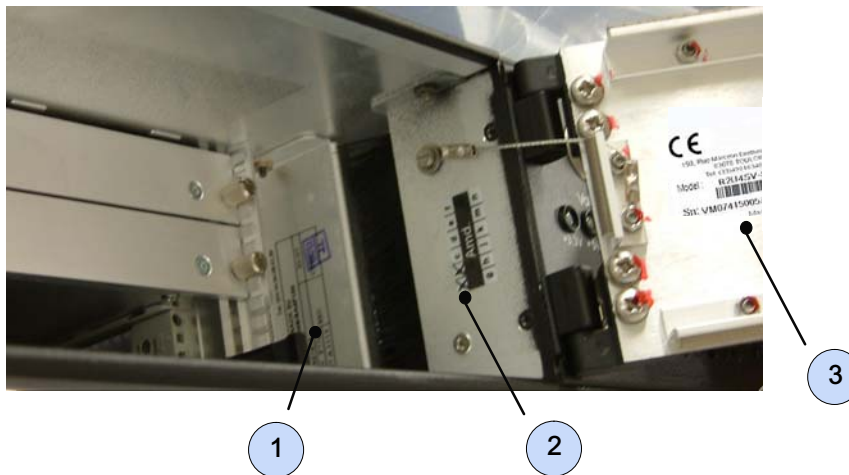

Figure 3: Identification
- ▶ Two of them are located inside the rack, near the EMC door (refer to Figure 3 above).
- ▶ The third one, is located on the EMC door (refer to Figure 3 above).